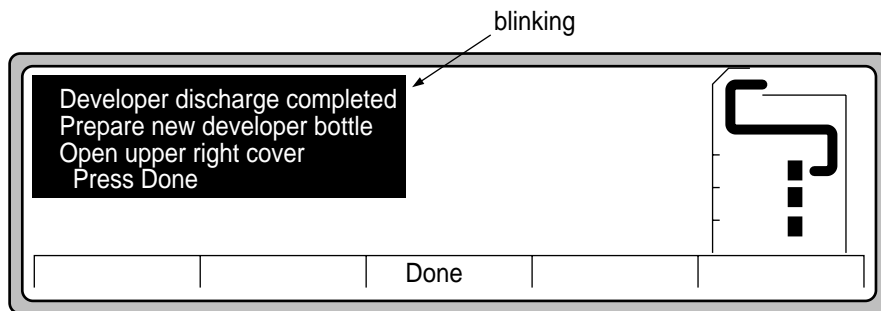

Figure A-7 Developer Discharge Complete
- After 45 seconds, you will see the display shown in Figure A-7.